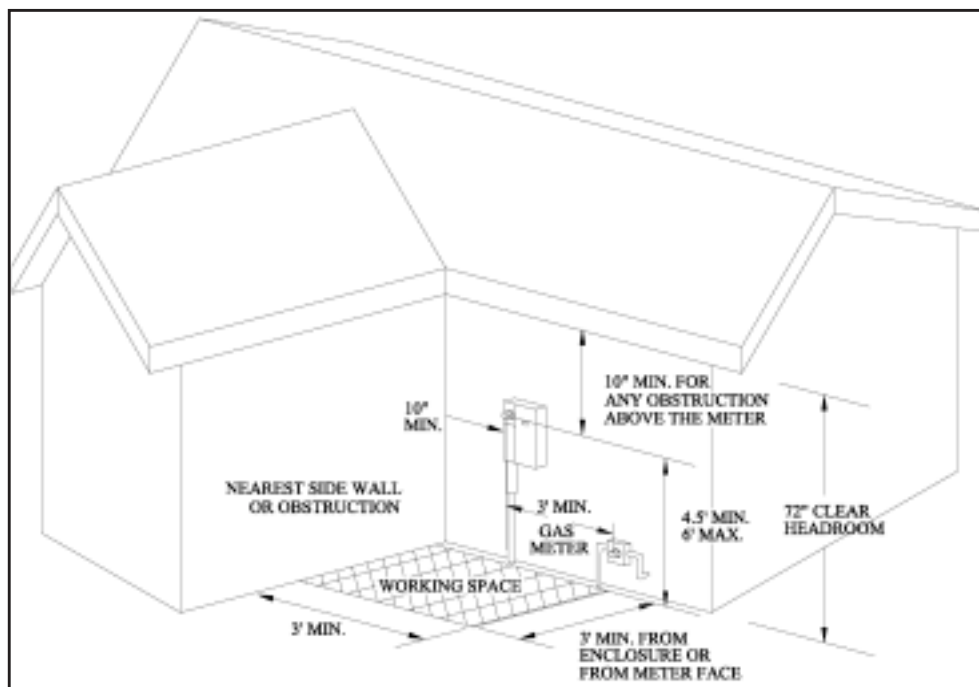

Figure 1-18. Meter socket minimum clearances.
- A working space of 36 inches wide by 36 inches deep is required around the meter. See Figure 1-18. This working space is to be kept clear of any obstructions including landscaping.